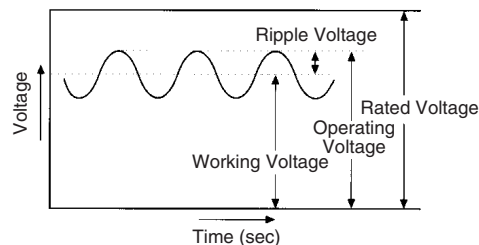

Fig. 5
- (1) The tantalum capacitors must be used in such a conditions that the sum of the working voltage and ripple voltage peak values does not exceed the rated voltage (Fig. 5)